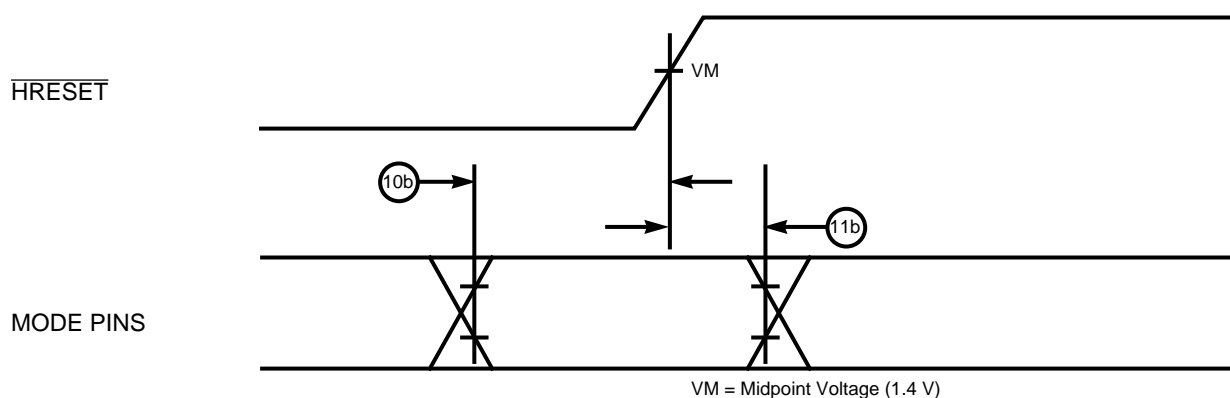

Figure 3. Mode Select Input Timing Diagram
2. The setup and hold time is with respect to the rising edge of $\overline{\text{HRESET}}$; see Figure 3.